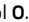

Fig. 46 Rear vehicle interior lighting
- Press the cover glass in the area of the symbol  ⇒ fig. 46.